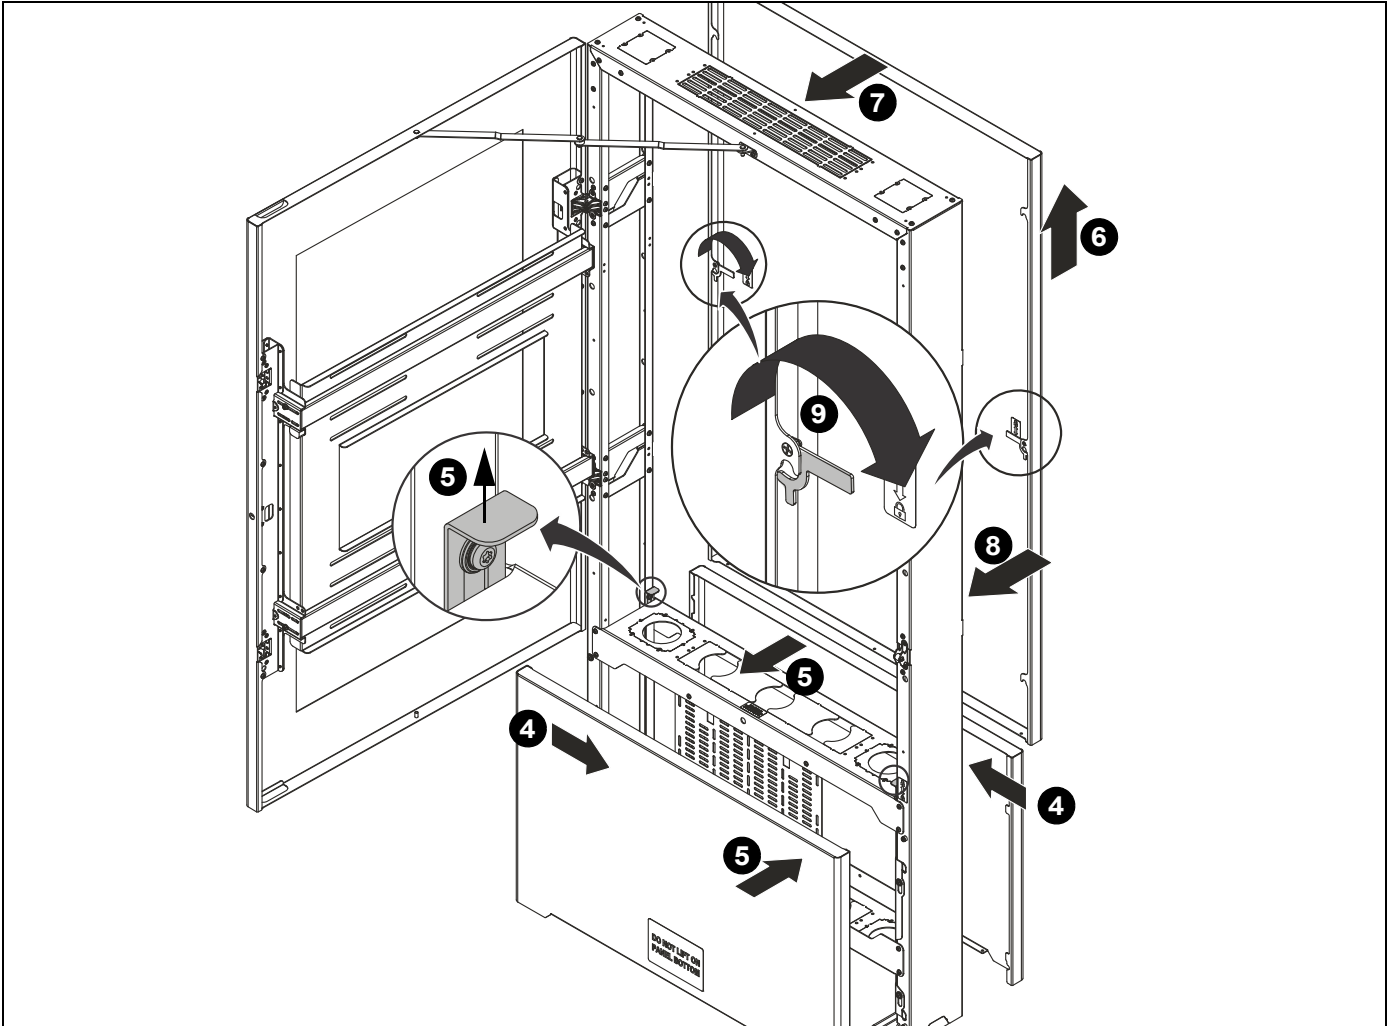

Figure 12
4. Return lower panel to kiosk by sliding it in from the left side of the kiosk. (See Figure 12)
5. Pull up lower panel latch inside kiosk and push in right side of lower panel to complete installation of panel. (See Figure 12)
6. **(One-sided display only)** Rest rear panel on top of lower panel and lift upward approximately 2 inches. (See Figure 12)